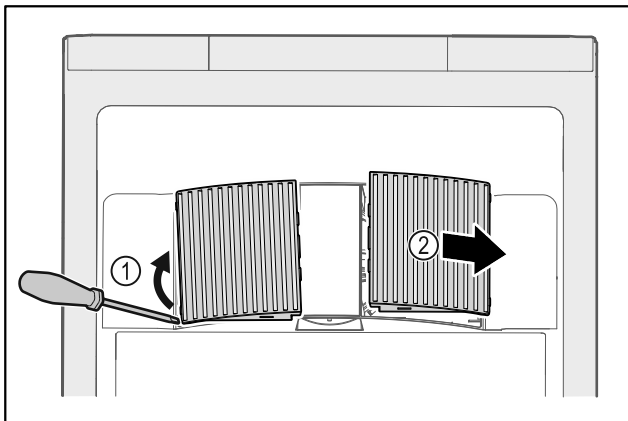

Fig. 154
- ▶ Carefully lever out fan covers from the side Fig. 154 (1) and remove towards the front Fig. 154 (2).